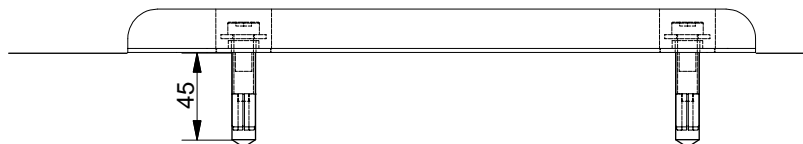
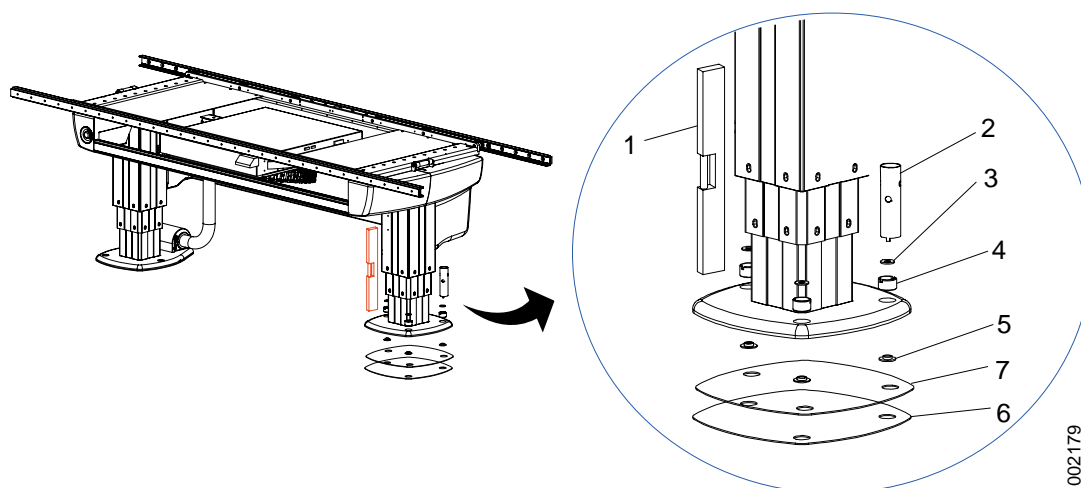

Fig. 4-104
Fig. 4-105
3. Place the Table over the drilled holes and install the insulation plate and washers according to Fig. 4-104 and Fig. 4-105 .
5. Place a spirit level (1) on two adjacent sides of each column. The column shall be 90° with a tolerance of $\pm 0.5^\circ$.
6. To adjust the column use the adjusting bolts (4) and the installation tool (2), see Fig. 4-105 The adjusting bolts are only for alignment.